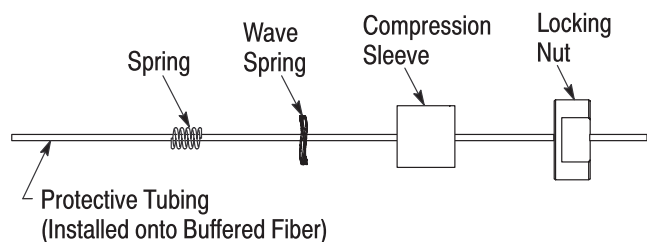

Figure 2
- f. Slide the components shown in Figure 2 over the buffered fiber and onto the protective tubing. Make sure to orient each component as shown.